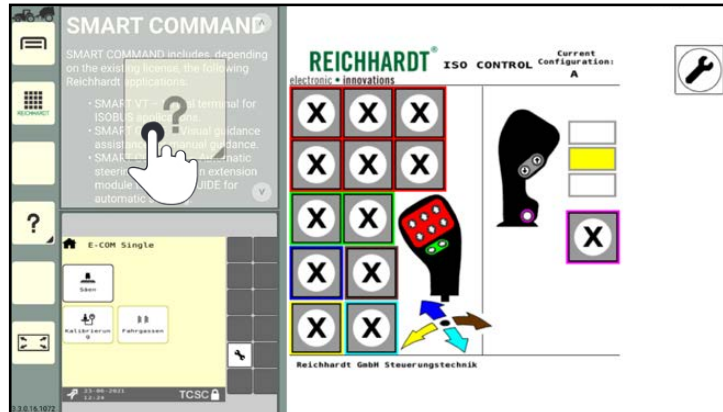

Fig. 77: Pressing and holding the application in the small window
1. Press and hold the application in the small window until the application symbol appears (see Fig. 77).